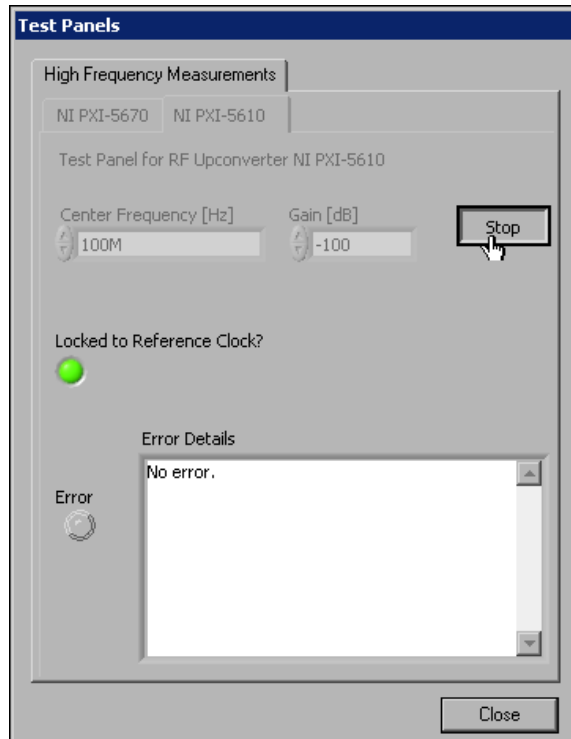

Figure B-5. The NI 5670 Test Panel during Operation
13. During operation of the test panel, the ACTIVE LED on the NI 5610 upconverter module front panel is illuminated, and the test panel is displayed as shown in Figure B-5.